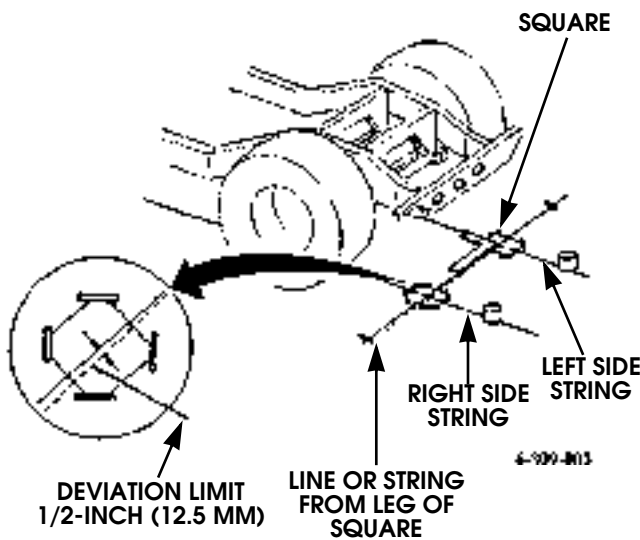

Figure 9-155: Diagonal Skew Measurement Method 2
1. Position a string across a plumb bob point on each of the frame rail strings (Figure 9-155).
2. Place a square with one leg coincident with a frame rail string (Figure 9-155).
3. Run a line or string along other leg of square to opposite frame rail string (Figure 9-155).